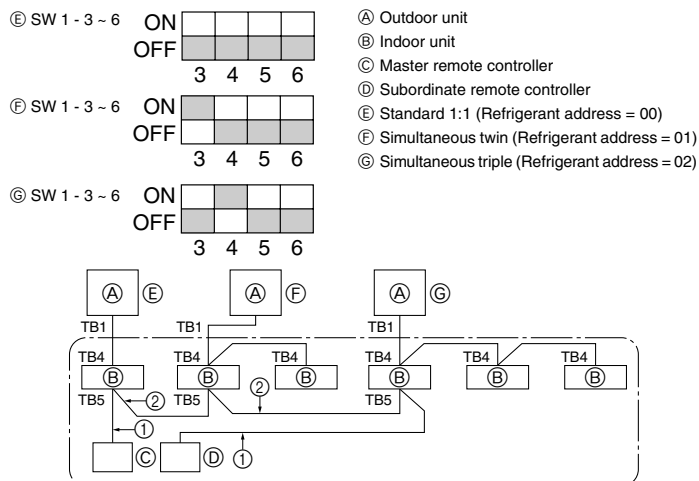

Fig. 10-1
① Supply power (circuit breaker).
② After the gas stop valve is closed, set the SWP switch on the control board of the outdoor unit to ON. The compressor (outdoor unit) and ventilators (indoor and outdoor units) start operating and refrigerant collecting operation begins. LED1 and LED2 on the control board of the outdoor unit are lit.
③ Because the unit automatically stops in about two to three minutes after the refrigerant collecting operation (LED1 and LED2 are lit), be sure to quickly close the gas stop valve. When LED1 and LED2 are lit and the outdoor unit is stopped, open the liquid stop valve completely, and then repeat step ② after three minutes have passed.
④ Turn off the power supply (circuit breaker).
10. System control (Fig. 10-1)